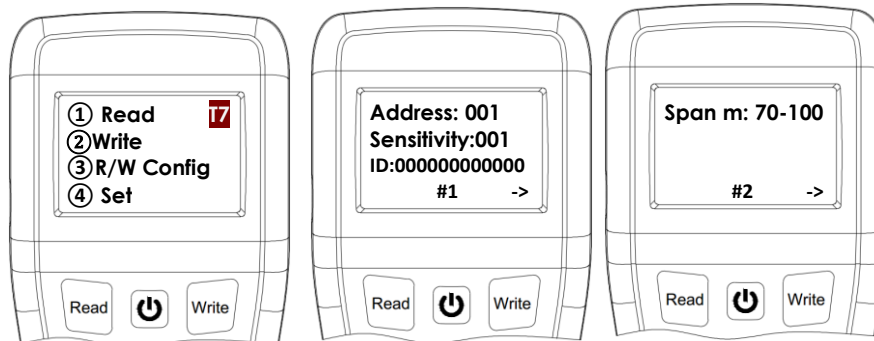

Figure 9
5. Press button "Exit" to clear and exit. (Figure 9)